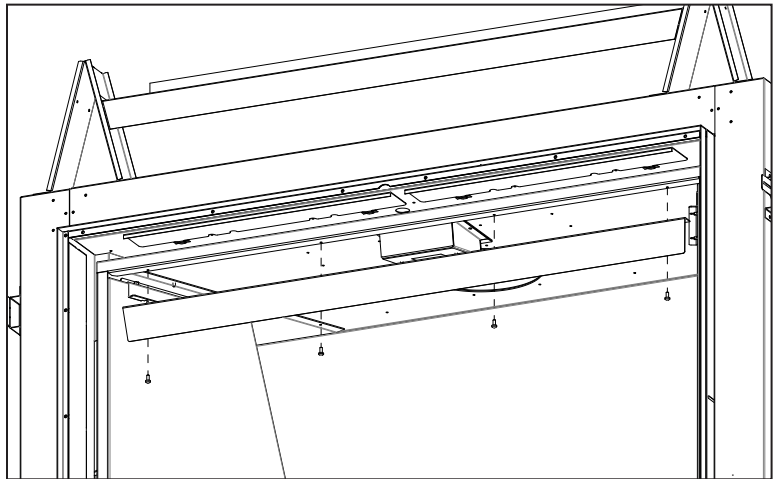

Figure 74: Light Deflector Removal
Step 2. Remove light deflector by removing the four (4) retaining T-20 screws (see Figure 74).